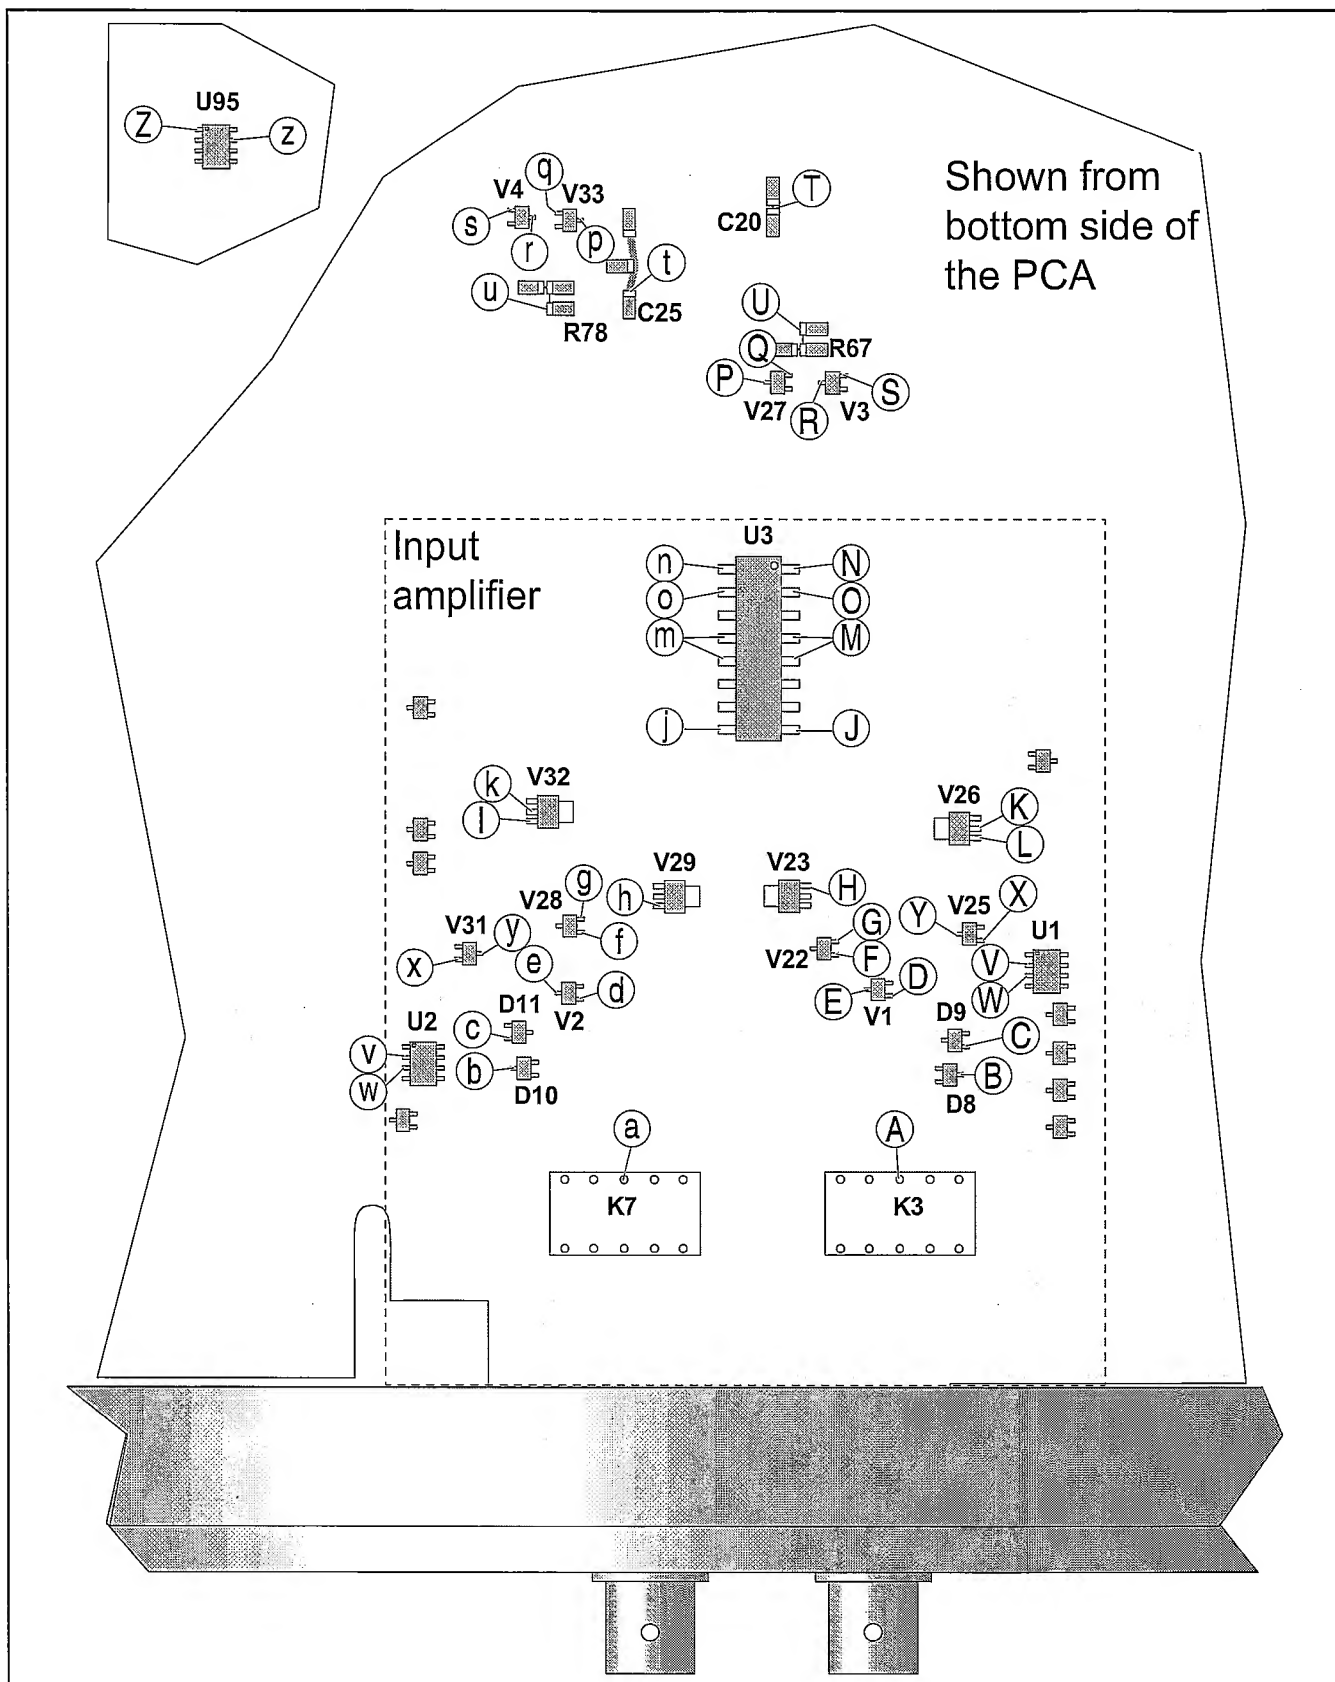

Figure 5-22 Typical voltages, Input Amplifier.
- Measure the DC voltages according to Figure 5-22 and Table 5-7. Use the DMM with a 10 k Ω resistor in series with the test cable.
- Measure the AC-levels according to Figure 5-22 and Table 5-7. Use the oscilloscope and a 10 M Ω probe.